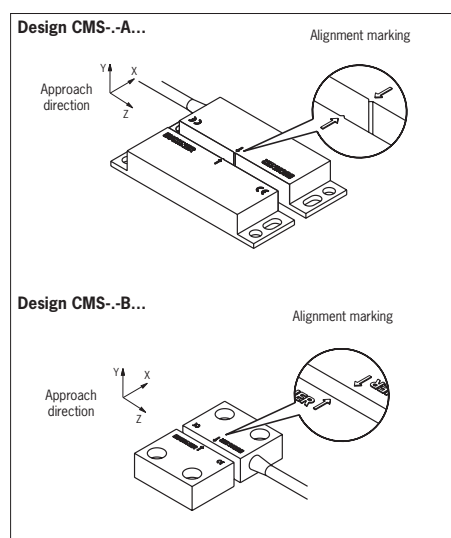

Fig. 1: Alignment of read head and actuator
▶ If the approach speed between the read head and the actuator is low, the approach direction **Z** (see Fig. 1) should be avoided.